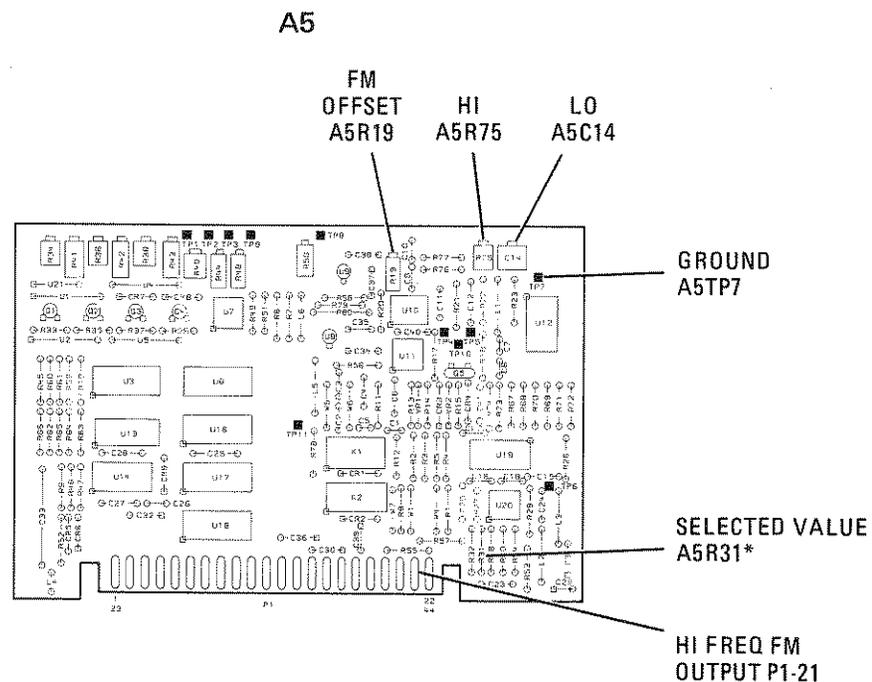
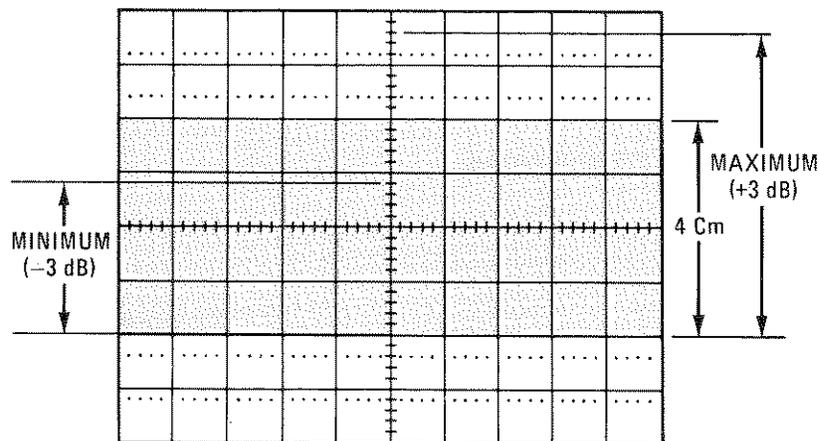

Figure 5-40. Location of A5 FM Driver Adjustments
Figure 5-41. FM Flatness Tolerance, DC to 2 MHz
2. Connect the DVM between A5 pin 21 and A5TP7 (HIGH FREQ FM RET). Refer to Figure 5-40 for adjustment procedure locations. Adjust A5R19 (FM OFFSET) for a DVM reading of 0.000 ± 0.001 Vdc.
6. Manually sweep the Function Generator frequency from DC to 100 kHz. Select resistor A5R31 so that the amplitude of the waveforms at Function Generator frequencies of 100 Hz and 100 kHz are the same ± 0.2 divisions on the CRT. Refer to Figure 5-40 for the location of A5R31. Refer to Table 5-3 for the allowable range of values for A5R31.
7. Manually sweep the Function Generator frequency from DC to 10 MHz. Adjust A5C14 (LO) and A5R75 (HI) controls to obtain the most constant overall response from DC to 10 MHz. Repeat this step several times.
8. Check that the ± 3 dB FM flatness supplemental characteristic is met between DC and 2 MHz as follows. Manually sweep the Function Generator frequency between DC and 2 MHz. On the Oscilloscope, note the maximum and minimum response points as shown in Figure 5-41. The maximum point (+3 dB) can be as high as 5.6 divisions, and the minimum point (-3 dB) can be as low as 2.8 divisions.